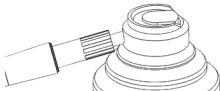
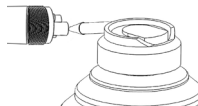

Fig. 7
Fig. 8
4. Insert spray adapter (Fig. 7) or nozzle (Fig. 8) completely into back of handpiece and hold it in place.